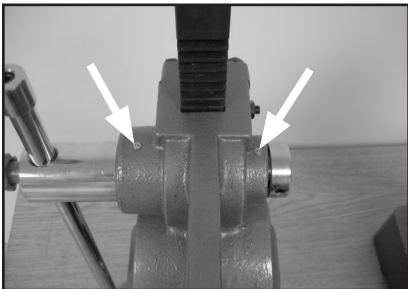

Figure 6. Oil (ball) fittings.
2. Depress the ball fittings shown in **Figure 6** and squeeze a 3–5 drops of oil into the fitting.